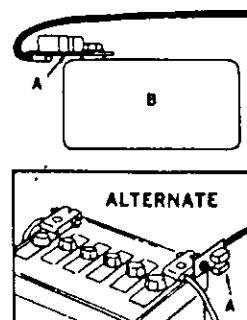

FIGURE 1
- A. Attach the circuit breaker (A) to the positive (+) battery post or to the positive (+) battery side of the starter solenoid (B). Figure 1.